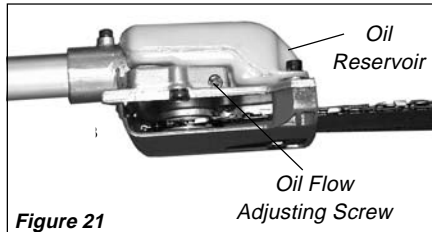

Figure 21
2. Place the unit on its side with the oil reservoir up. See Figure 21.